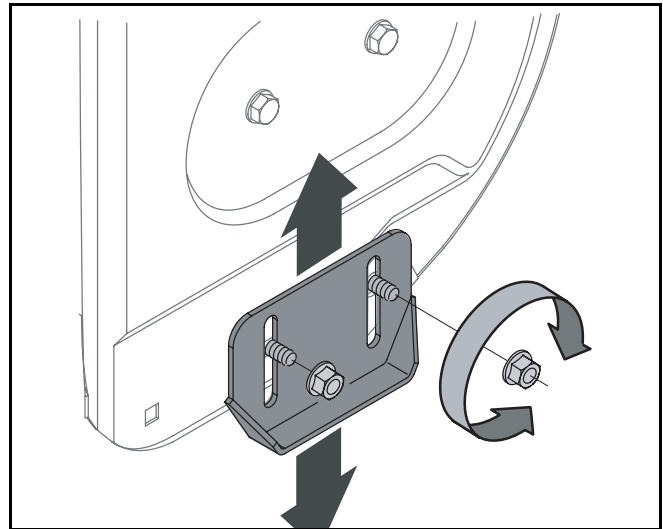

Figure 4
The space between the skid shoes and the ground can be adjusted. See Figure 4.
- To remove skid shoes, remove the four carriage bolts and hex flange nuts which secure them to the snow thrower. Reassemble new skid shoes with the four carriage bolts (two on each side) and hex flange nuts. Refer to Figure 4.